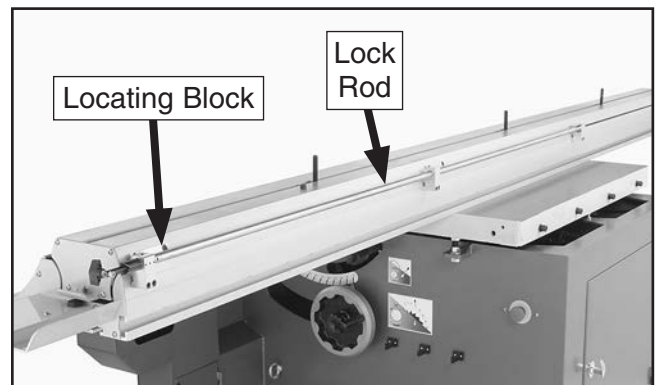

Figure 24. Locating blocks and lock rod installed on sliding table.
5. Install the lock rod with the six M6-1 x 35 cap screws and six 6mm lock washers, as shown in **Figure 24**.